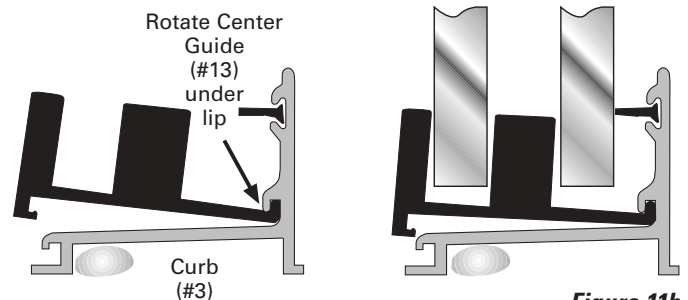
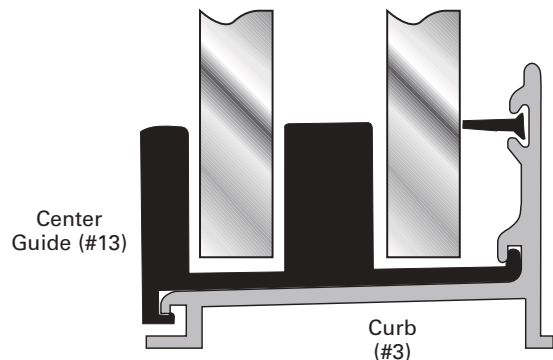

Figure 11b
Figure 11c
D. Press the Center Guide onto the Curb and lock it into position by pressing firmly on the back edge of the Center Guide as shown in **Figure 11b**. You should feel it lock into place. If the Center Guide doesn't lock into position easily, it may be necessary to press firmly on one end to start the process and work along the back of the Center Guide in order to lock it into place (See **Figure 11c**).